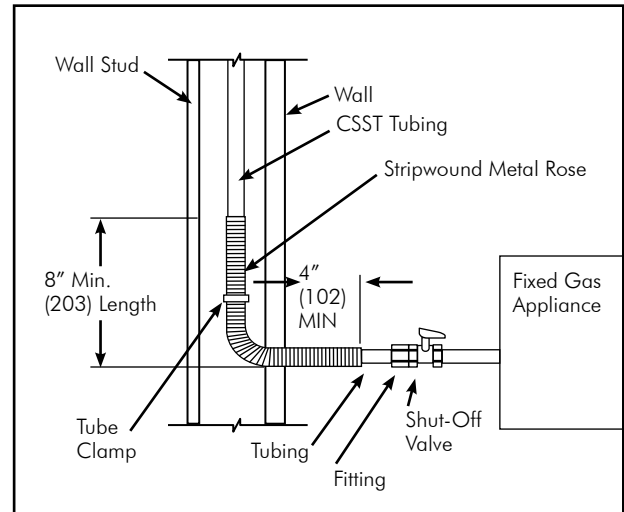

FIG. 4-22 Direct Tubing Connection to a Fixed Gas Appliance Shut off Valve
- **Fixed appliance connections** may be directly connected to the Diamondback tubing. When the fixed appliance is located in a secure, dedicated space, such as basement, attic, garage or utility closet, the flexible piping may be directly connected to the appliance shut-off valve without installation of a flange fitting or flexible appliance connector (See **FIG. 4-22**).